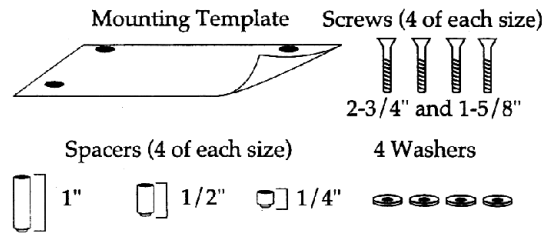

Figure 1
This under the cabinet clock radio has been designed to be installed underneath a wooden cabinet by using the Mounting Template, four (4) Screws, four (4) Washers and four (4) Spacers (see Figure 1).